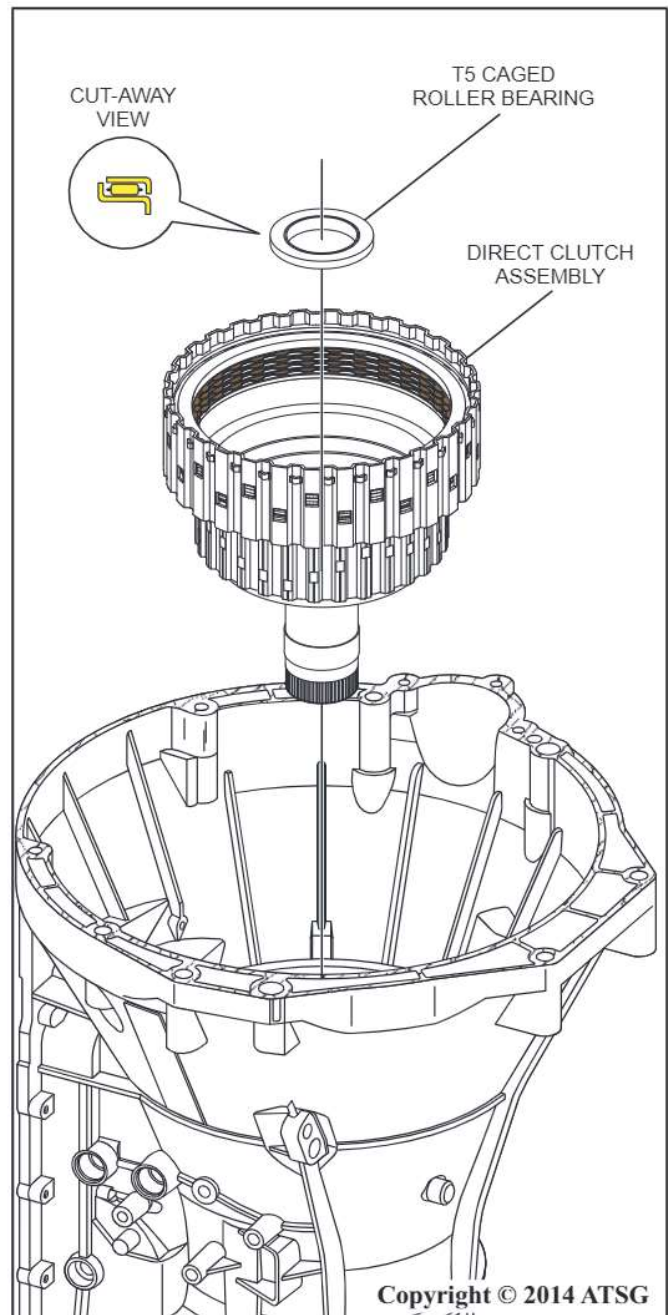

Figure 141
26. Install the direct clutch assembly into the transmission as shown in Figure 141.
27. Install the T5 caged roller bearing as shown in Figure 141.